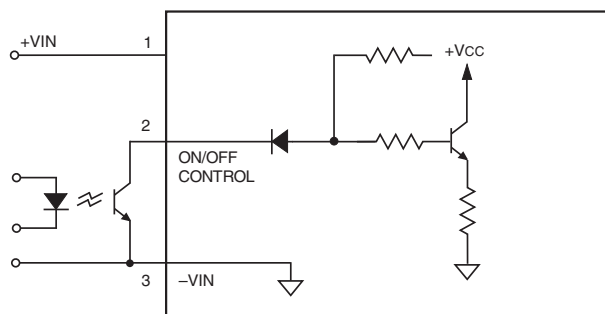

Figure 9. Driving the Negative Logic On/Off Control Pin (simplified circuit)
**Negative** (“N” suffix) logic devices are off when pin 2 is left open (or pulled high, applying +3.5V to +13.5V), and on when pin 2 is pulled low (0 to 1V) with respect to –Input as shown in Figure 9.